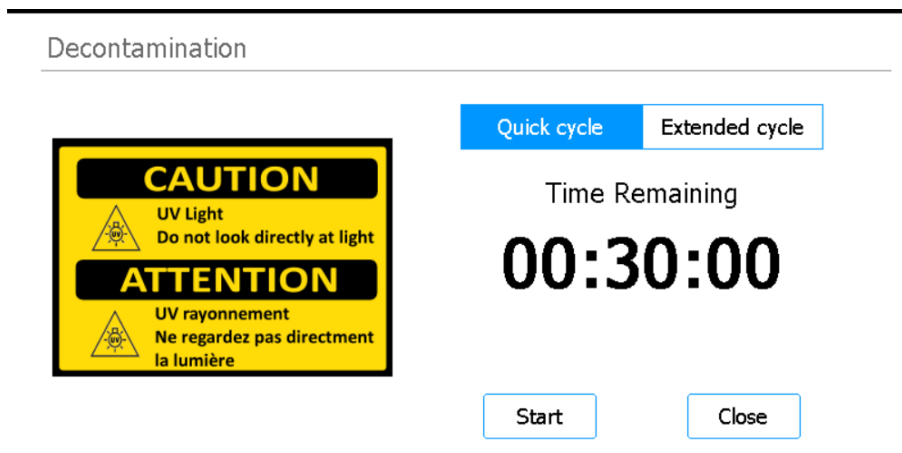

Figure 24 Decontamination screen with Quick cycle selected
- 3 At the top of the screen, select **Quick cycle**, as shown in **Figure 24**